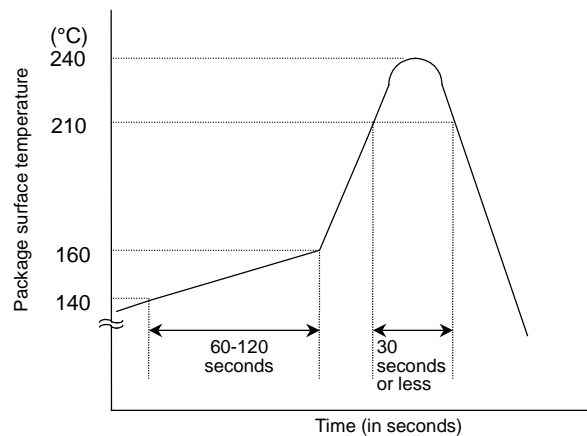

Figure 3.11 Sample Temperature Profile for Infrared or Hot Air Reflow
- Refer to Figure 3.11 for an example of a good temperature profile for infrared or hot air reflow.
(3) Using hot air reflow
- For an example of a recommended temperature profile, refer to Figure 3.11 above.